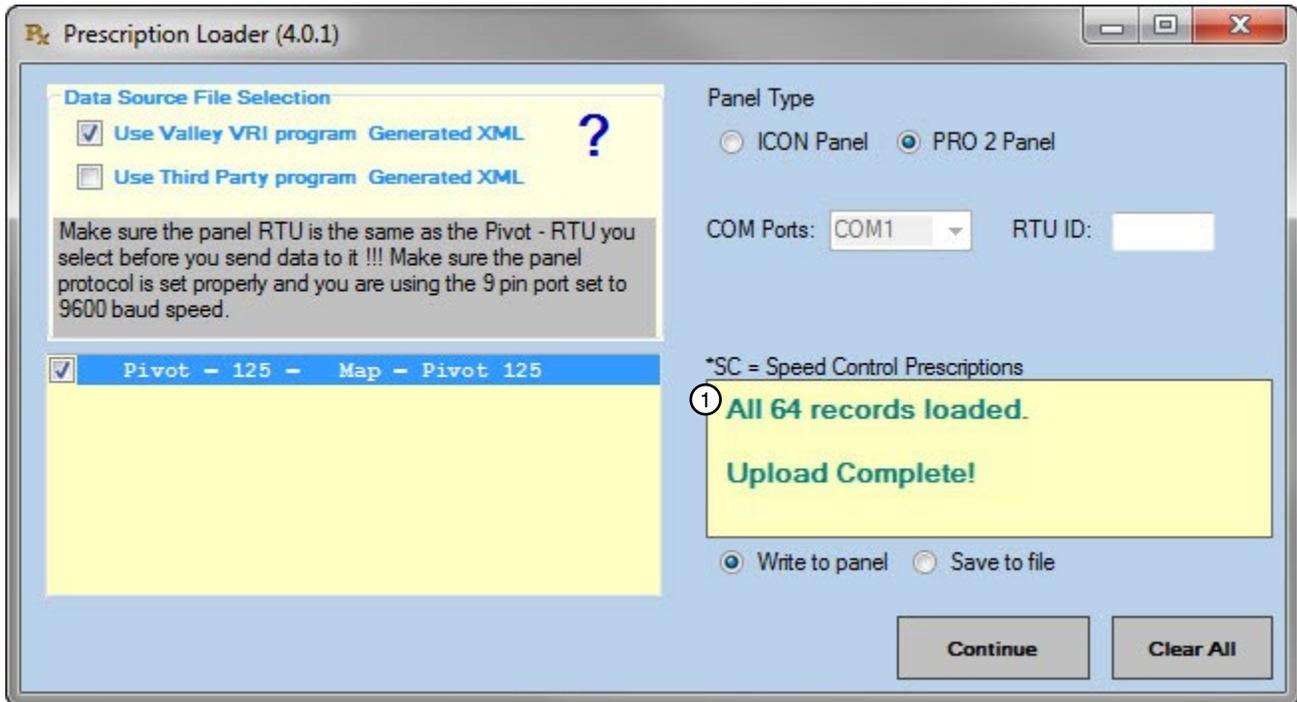

Figure 44-1 1. Data Transmission Status
- If you selected **Write to panel** and clicked **Continue**, the file is sent to the control panel and the Prescription Loader screen is updated with the status of the data transmission. See Figure 44-1.